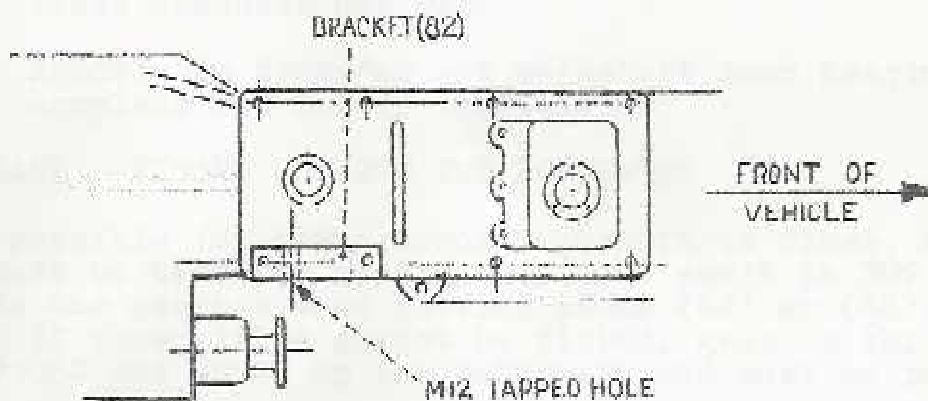

FIG. 1
4. Remove 2 bolts from right hand side of gearbox top cover, fit bracket, (82), using 35 mm long bolts and spring washers, (72), (86) with the M12 tapped hole towards the rear of the vehicle, Fig 1.